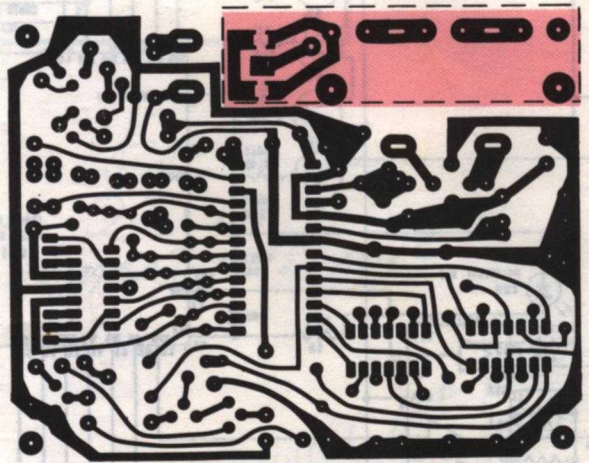

FIGURE 2. X-RAY VIEW OF P.C. BOARD
15. Install the 12V/300mA transformer T1. CAUTION: To reduce shock hazard you should place insulating tape across the AC and relay terminals as outlined in Figure 2.